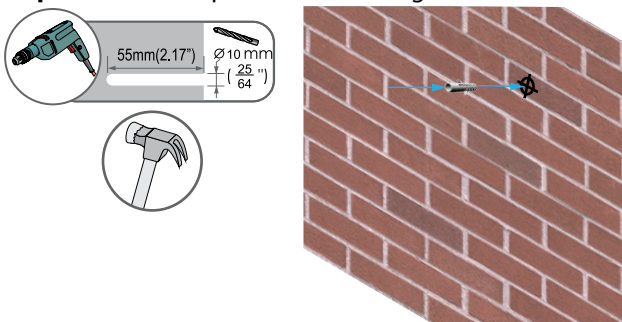

Figure 5
3. Insert a **Concrete Anchor** into the newly drilled hole from **Step 2** with the help of a **Hammer**. Figure 5.